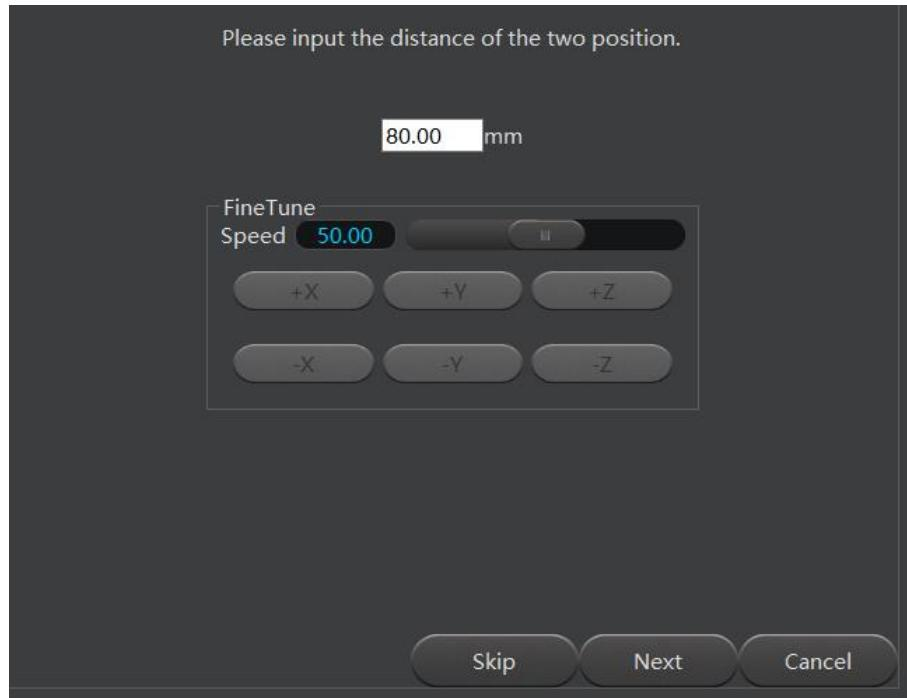

Figure 5.167 Set the distance between the two calibrated points
**Step 7** Click **Next** and set the distance between the two calibrated points, as shown in Figure 5.167.